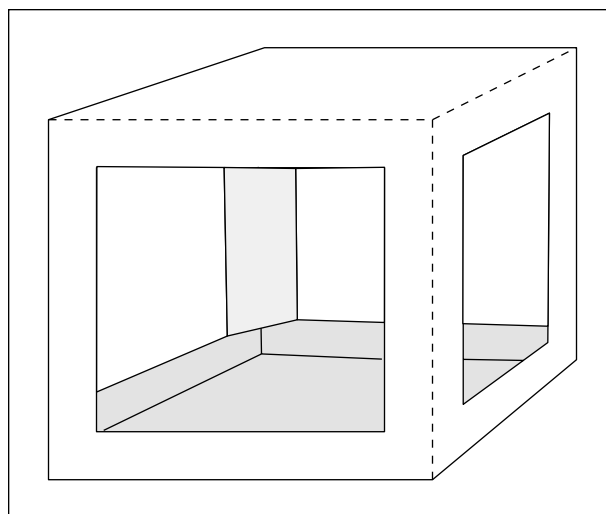

Figure 11-23:
3. Fold each pair of flaps inward to make triangular tubes as in Figure 11-23.